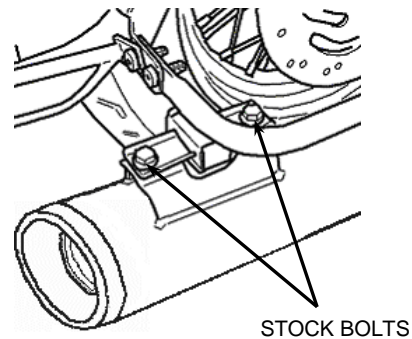

FIGURE 6
13. Slide the muffler assembly onto the 2 into 1 collector outlet. Secure the muffler assembly to the stock sliding hanger on the frame using the stock bolts and tighten to factory specifications. See **FIGURE 6**.